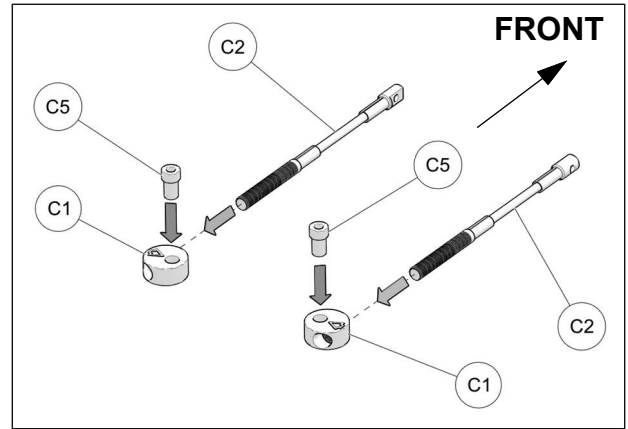

Fig. 33
16. Assemble steering limiter cables (C2), aluminum disks (C1) and step spacers (C5) together as shown on Fig. 33